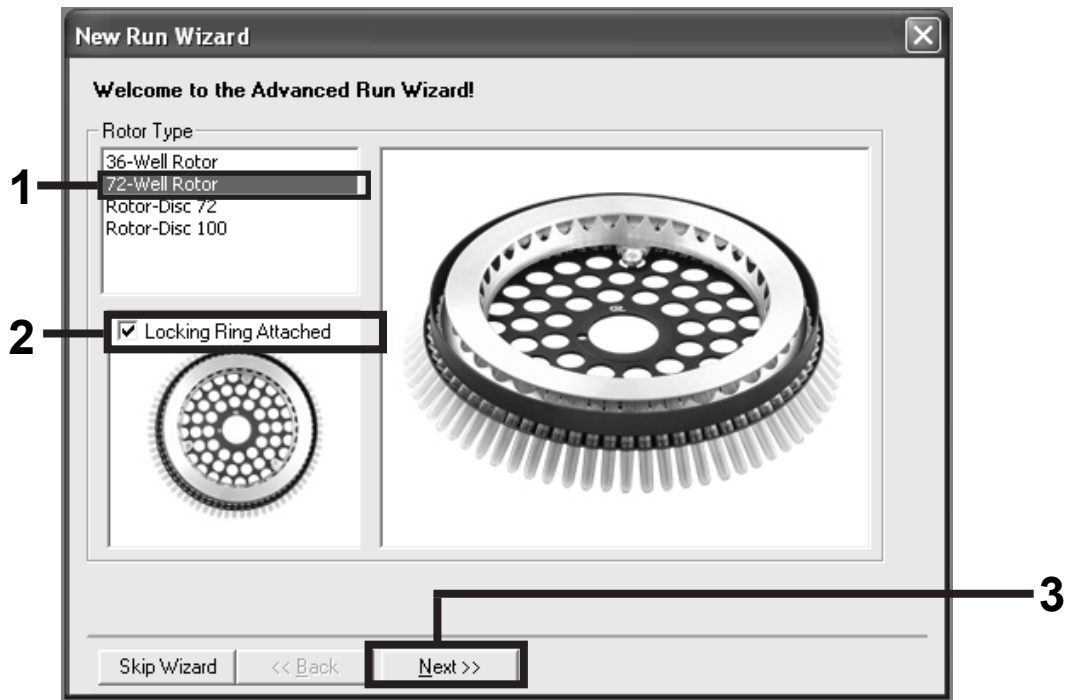

Figure 1. The “New Run Wizard” dialog box.
Setting the general assay parameters	Figures 1–3
4. Select **72-Well Rotor** as the rotor type. Confirm that the locking ring is attached and check the “**Locking Ring Attached**” box. Click “**Next**” (Figure 1).